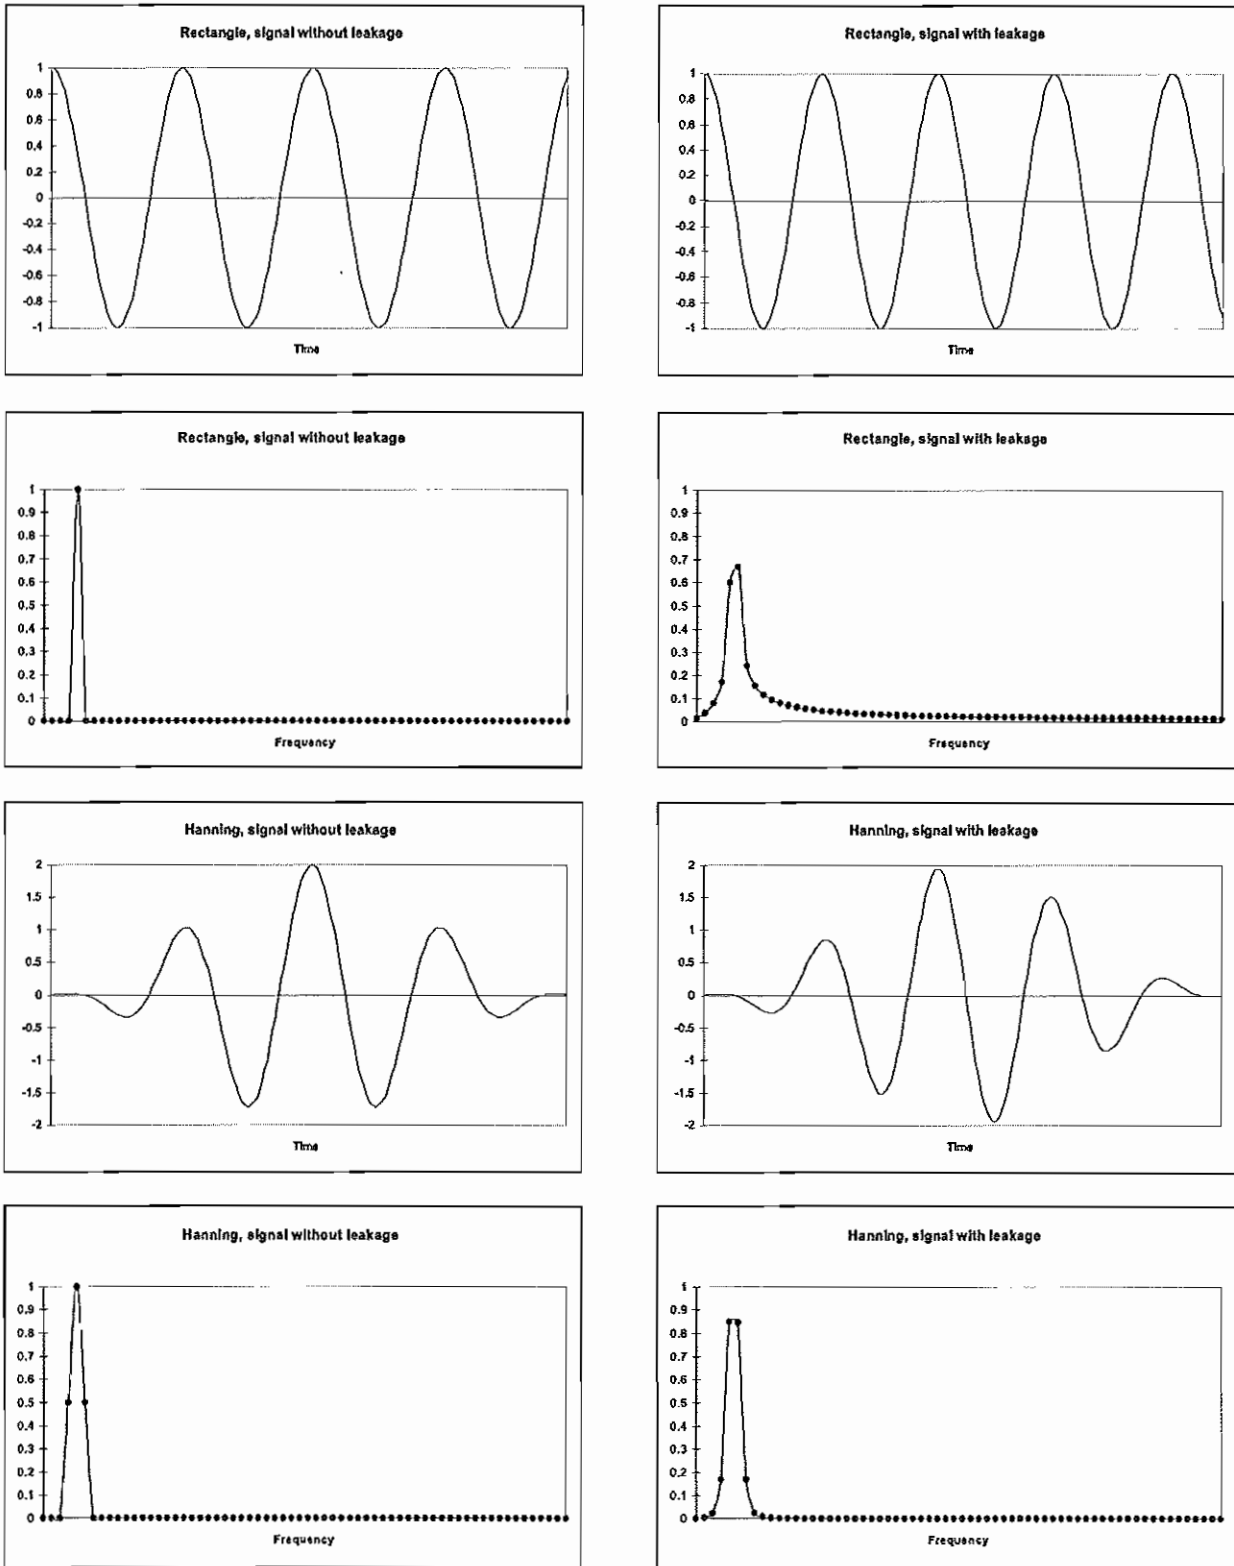

Figure 5.3: Comparison of the rectangular window with the Hanning window
- If the time signal is **periodic in the time window**, the periodic continuation of the windowed signal corresponds to the actual time signal (see FIGURE 5.3, rectangle, signal without leakage).
- If the time signal is **non-periodic in the time window**, the periodic continuation of the windowed signal no longer complies with the actual time signal. This cannot be interpreted properly by the FFT and the frequency spectrum is falsified (see FIGURE 5.3, rectangle, signal with leakage).
The rectangular window does **not** falsify the spectrum of signals which are periodic in the time window, see FIGURE 5.3.